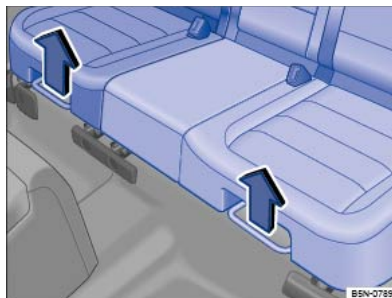

Fig. 84 Underneath the seat cushion on the rear bench seat: adjustment lever.
- Pull up the right-hand or left-hand lever in the direction of the arrow ⇒ Fig. 84 and move the corresponding element of the rear bench seat either forwards or backwards.